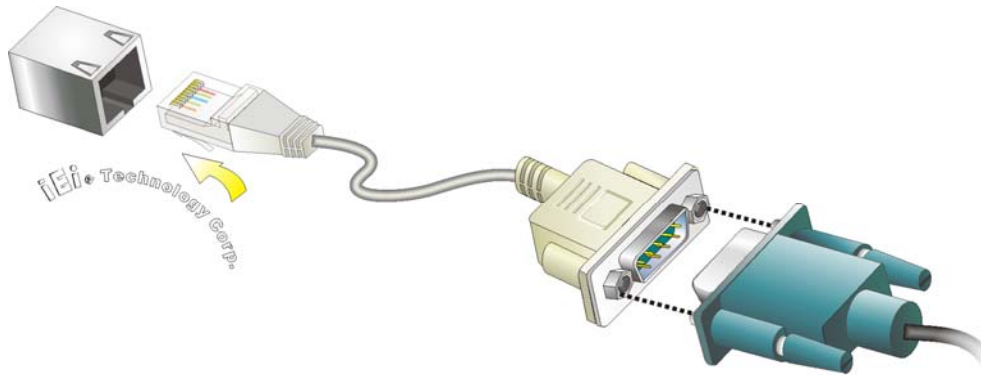

Figure 3-27: RJ-45 RS-232 Serial Device Connection
Step 2: **Insert the RJ-45 connector.** Insert the RJ-45 connector on the RJ-45 to DB-9 COM port cable to the RJ-45 RS-232 connector on the UPC-V312-D525. See **Figure 3-27**.